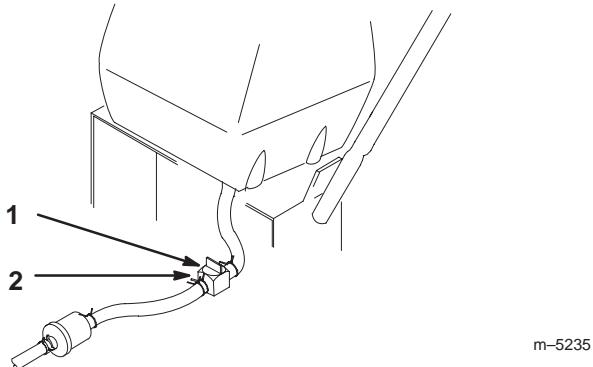

Figure 42
2. Close fuel shut-off valve at fuel tank (Fig. 42).
3. Squeeze the ends of the hose clamp together and slide it up the fuel line away from valve (Fig. 42).
4. Pull the fuel line off the valve (Fig. 42). Open fuel shut-off valve and allow gasoline to drain into a gas can or drain pan.
3. Close fuel shut-off valve at fuel tank (Fig. 42).
7. Open fuel shut-off valve at fuel tank (Fig. 42).